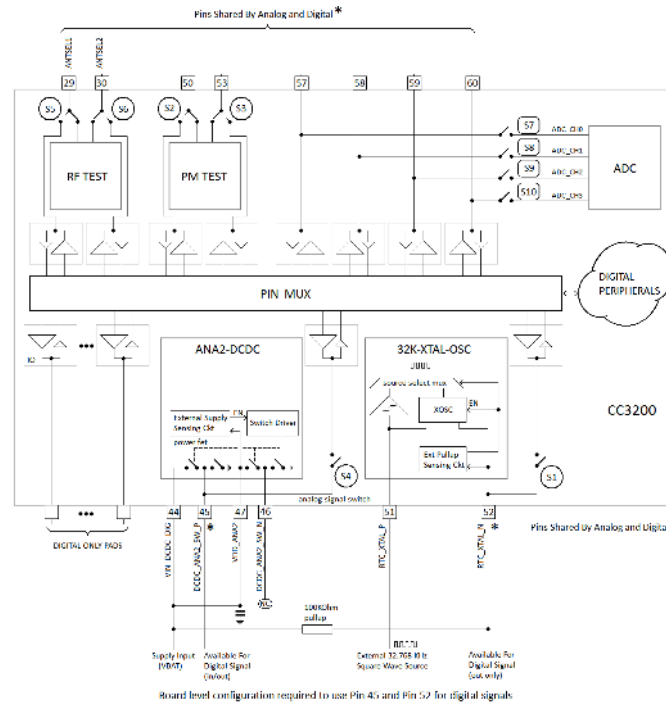

Figure 3-2. Board Configuration to Use Pins 45 and 52 as Digital Signals
- (1) LPDS mode: The state of unused GPIOs in LPDS is input with 500 kΩ pull-down. For all used GPIOs, the user can enable internal pulls, which would hold them in a valid state.
- (2) Hibernate mode: The CC3200 device leaves the digital pins in a Hi-Z state without any internal pulls when the device enters hibernate state. This can cause glitches on output lines unless held at valid levels by external resistors.
- (3) To minimize leakage in some serial flash vendors during LPDS, TI recommends the user application always enable internal weak pull-downs on FLASH\_SPI\_DATA and FLASH\_SPI\_CLK pins.
- (4) This pin has dual functions: as a SOP[2] (device operation mode), and as an external TCXO enable. As a TXCO enable, the pin is an output on power up and driven logic high. During hibernate low-power mode, the pin is in a high impedance state but pulled down for SOP mode to disable TCXO. Because of SOP functionality, the pin must be used as output only.
- (5) Higher leakage current from the onboard serial flash can occur due to floating inputs when the device enters Hibernate mode. See reference schematics for recommended pull-up and pull-down resistors.
- (6) For details on proper use, see Section 3.2, Drive Strength and Reset States for Analog-Digital Multiplexed Pins.
- (7) This pin is one of three that must have a passive pullup or pulldown resistor on board to configure the chip hardware power-up mode. For this reason, the pin must be output only when used for digital functions.
- (8) This pin is reserved for WLAN antenna selection, controlling an external RF switch that multiplexes the RF pin of the CC3200 device between two antennas. These pins should not be used for other functionalities in general.
- (9) Device firmware automatically enables the digital path during ROM boot.
- (10) Pin 45 is used by an internal DC-DC (ANA2\_DCDC) and pin 52 is used by the RTC XTAL oscillator. These modules use automatic configuration sensing. Therefore, some board-level configuration is required to use pin 45 and pin 52 as digital pads (see Figure 3-2). Because the CC3200R device does not require ANA2\_DCDC, the pin can always be used for digital functions. However, pin 47 must be shorted to the supply input. Typically, pin 52 is used for RTC XTAL in most applications. However, in some applications a 32.768-kHz square-wave clock might always be available onboard. In such cases, the XTAL can be removed to free up pin 52 for digital functions. The external clock must then be applied at pin 51. For the chip to automatically detect this configuration, a 100K pull-up resistor must be connected between pin 52 and the supply line. To prevent false detection, TI recommends using pin 52 for output-only functions.
- (11) VDD\_FLASH must be shorted to Vsupply.
- (12) To use the digital functions, RTC\_XTAL\_N must be pulled high to Vsupply using 100-KΩ resistor.
- (13) This pin is shared by the ADC inputs and digital I/O pad cells. Important: The ADC inputs are tolerant up to 1.8 V. On the other hand, the digital pads can tolerate up to 3.6 V. Hence, care must be taken to prevent accidental damage to the ADC inputs. TI recommends that the output buffer(s) of the digital I/Os corresponding to the desired ADC channel be disabled first (that is, converted to high-impedance state), and thereafter the respective pass switches (S7, S8, S9, S10) should be enabled (see Section 3.2, Drive Strength and Reset States for Analog-Digital Multiplexed Pins).
- (14) Requires user configuration to enable the ADC channel analog switch. (The switch is off by default.) The digital I/O is always connected and must be made Hi-Z before enabling the ADC switch.